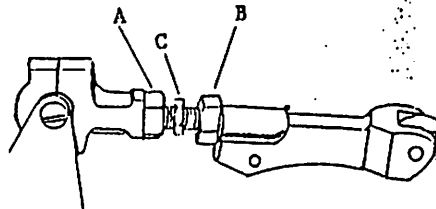

Figure 11
- b. Turn the connecting rod C forward or backward to obtain the 4.0 dimension. Fig. 11